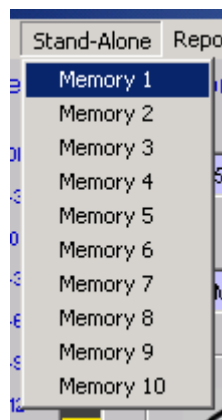

Figure 4-83 Stand-Alone Pulldown Menu
2. Click on **Stand-Alone** on the Master Control Panel menu bar to access the following pulldown menu (Figure 4-83):